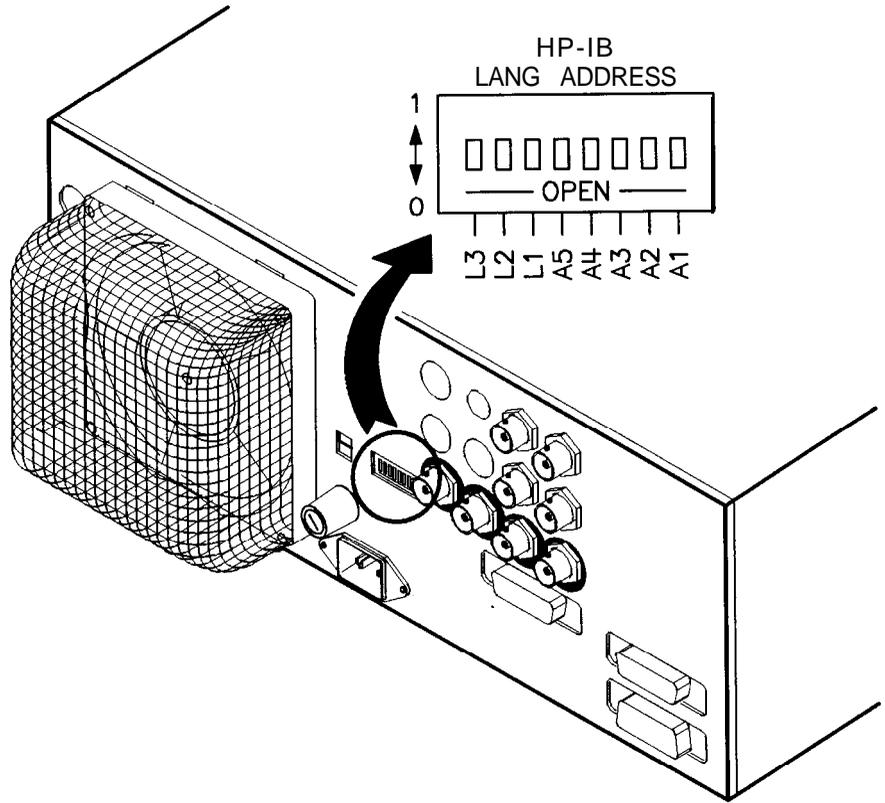

Figure 3-2. Rear Panel HP-IB Switch
To set a programming language from the front panel, the instrument language on the rear panel HP-IB switch (L1, L2, and L3 Figure 3-2) *must* be set to 7 (all 1s).
If the synthesizer displays Rear panel HP-IB language must be 7 (111) in order to change current language (=XXX), the address on the rear panel HP-IB switch (Figure 3-2) is set to something other than 7 (all 1s).
If your synthesizer does not have a front panel, set the rear panel HP-IB switch (Figure 3-2) for the language you want. (See Table 3-1 for language addresses.)
To set an HP-IB address from the front panel, the instrument address on the rear panel HP-IB switch (Figure 3-2) must be set to 31 (all 1s).
If the synthesizer displays Rear panel HP-IB address must be 31 (11111) in order to change current address (=XX), the address on the rear panel HP-IB switch (Figure 3-2) is set to something other than 31 (all 1s).
To disable the address softkeys, set the instrument address on the rear panel HP-IB switch (Figure 3-2) to any address *other than 31* (all 1s).
If your synthesizer does not have a front panel, set the address on the rear panel HP-IB switch (Figure 3-2) to the address you want (factory default is 19).